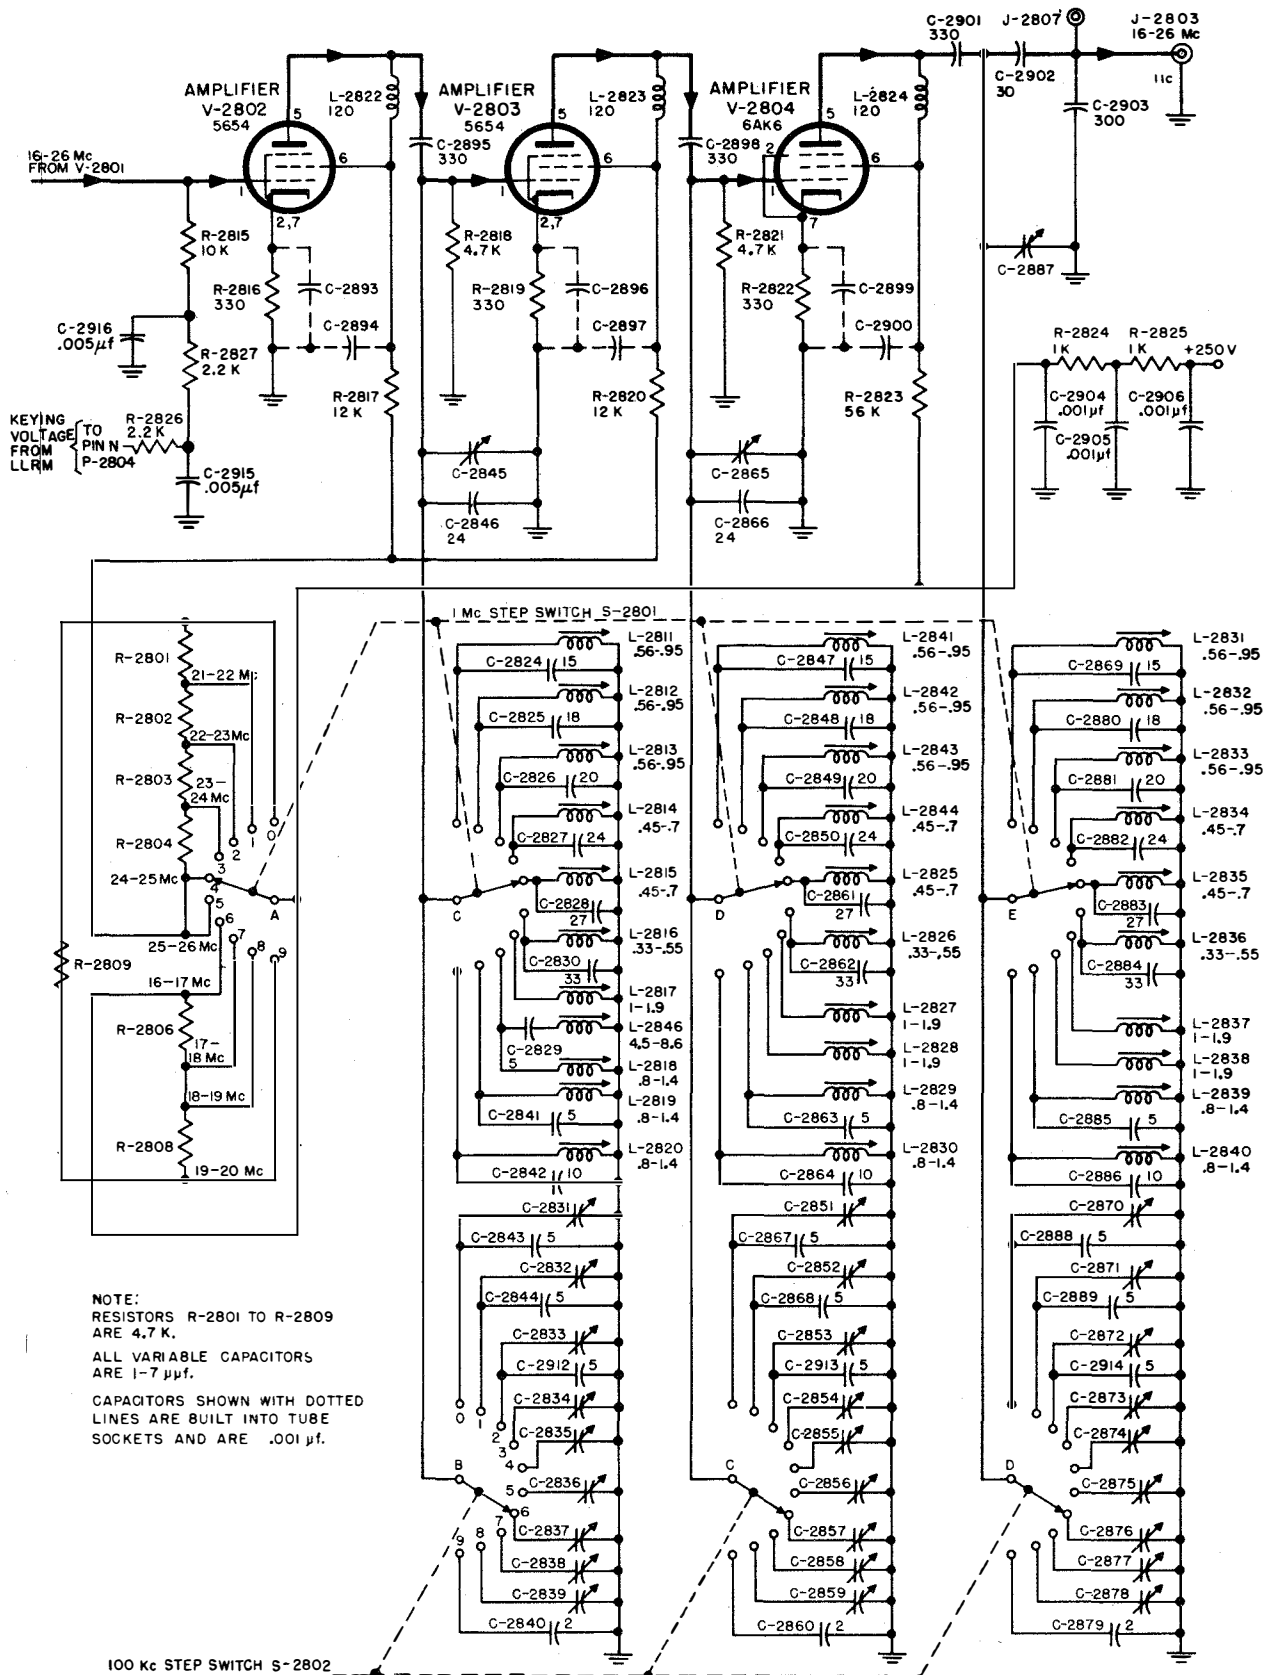

Figure 2-39. RFO Unit 11C, Amplifiers V-2802, V-2803, and V-2804, Simplified Schematic
(2) AMPLIFIERS V-2802, V-2803, AND V-2804.—These amplifiers (figure 2-39) are similar to the corresponding amplifiers in unit 11B with the exception that LLRM keying is fed to the control grid of V-2802. The LLRM keying input is connected first through the same decoupling network employed in the input to V-2801, then through additional decoupling components R-2827 and C-2916 to grid resistor R-2815. The final 16- to 26-mc output (11c), which has been filtered four times to reject spurious frequencies, is fed to J-2803 at a level of approximately two volts rms. Test point J-2807 is provided for testing this output. The B+ supply for the entire unit is decoupled by C-2904, C-2905, C-2906, R-2824, and R-2825.
(3) 1-MC STEP SWITCH S-2801.—Table 2-10, above, shows the filter network components selected by the 1-mc step switch, S-2801, and the dropping resistor switched out of the amplifier circuits, as this switch is rotated progressively from positions 6 to 9 and then from 0 to 5.
(4) 100-KC STEP SWITCH S-2802.—The following table shows the frequency ranges and the capacitors selected for the 1-mc filter circuits by the 100-kc step switch, S-2802. Switch S-2802 selects a 100-kc range within the 1-mc range selected by switch S-2801.